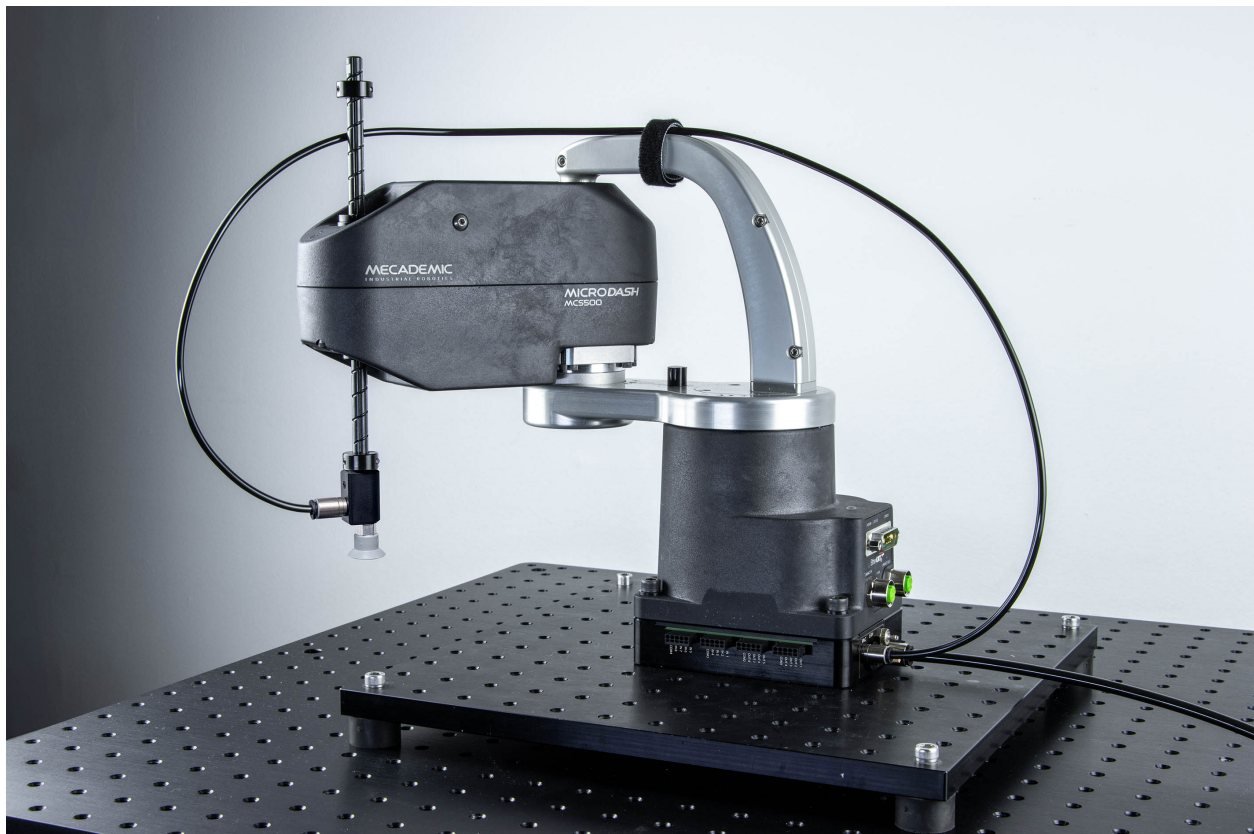

Figure 9: Complete installation of the MVK01 kit
Finally, insert the 6-mm (OD) pneumatic tubing providing the compressed air (7 bar) into the push-in connector of the IN port on the MVK01 module. Then, cut the proper length of pneumatic tubing with 4-mm outer diameter and connect one end to the VAC port on the MVK01 module and the other to the push-in connector of the suction cup holder. Attach the tubing with a tie wrap to the rigid cable conduit of the SCARA robot as shown in Figure 9. Make sure the tubing is sufficiently long for the active joint ranges of the robot, specified by the command SetJointLimits.